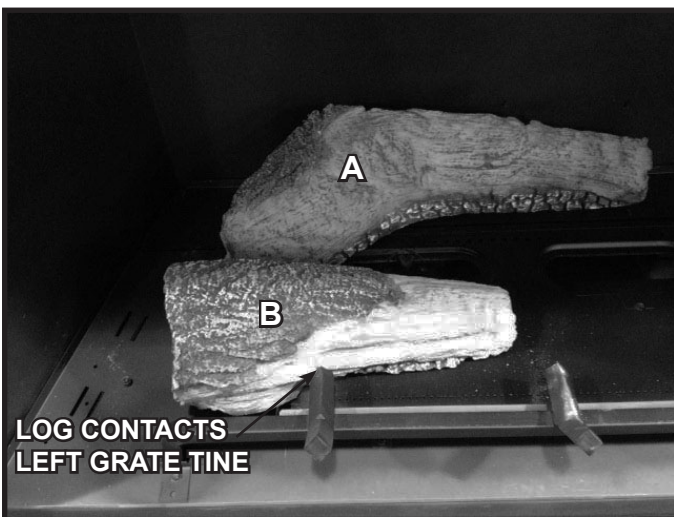

Figure 6. Log B Installed
2. **(LOG B):** Locate the pin hole on the bottom of Log B. Place pin hole on Log B over the pin referenced for Log B in Figure 4. Hold the log over the pin and rotate the left side of the log until it contacts the left grate tine. See Figure 6.